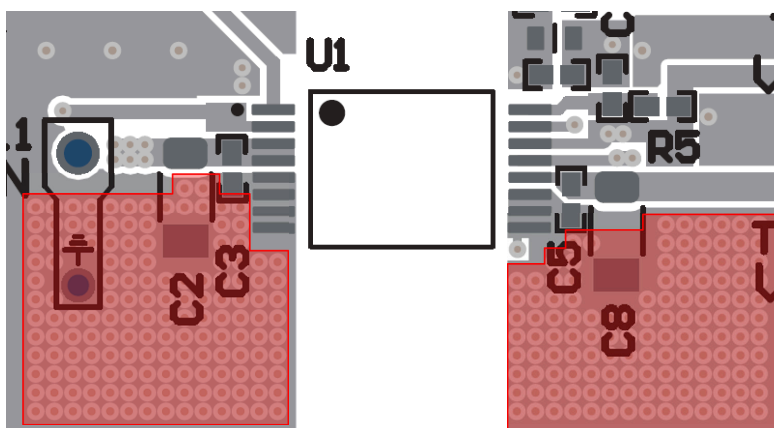

Figure 8-6. Layout Example of Thermal Vias
- f. A layout example is shown in Figure 8-6.